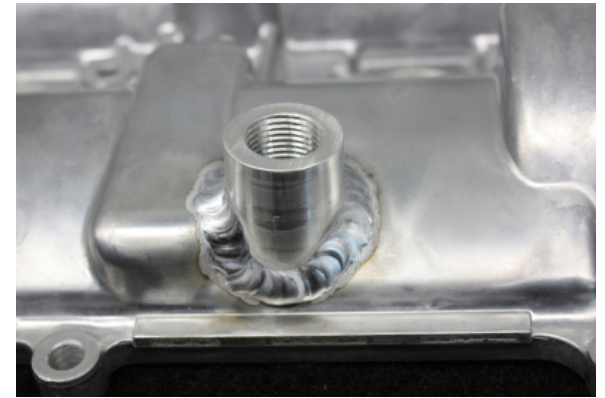
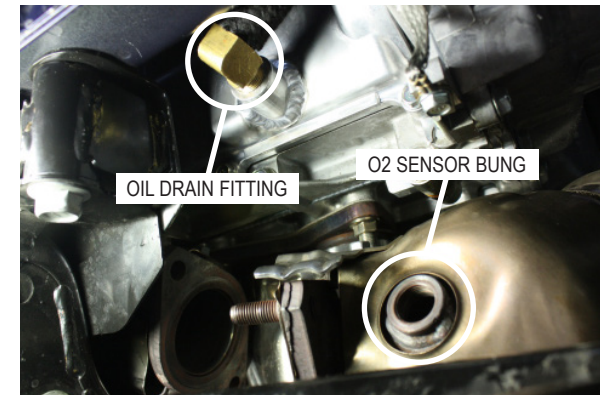

Fig. 11K
Fig. 11L
- N. Locate the provided weld-on oil drain bung. The oil drain bung is already contoured to match the valve cover contour. Place the oil drain bung onto the valve cover, making sure that the threaded portion of the oil drain bung is level & square to the valve cover. Once the oil drain bung is level & centered over the hole, weld it onto the valve cover. See Fig. 11K
- Q. Place a light coat of RTV onto the valve cover gasket & reinstall the valve cover to the engine. Secure the valve cover to the engine using the (8) 10mm screws previously removed. **Note: Be sure that the seating surface of the valve cover gasket on the engine is clean & clear of any old RTV.**
- R. Locate the provided oil drain fitting & apply a small amount of pipe sealant prior to installation. Be sure that the oil drain fitting is facing up at about a 35° angle. Use a 3/4" open end wrench to help tighten the oil drain fitting. Removal of the o2 sensor will be necessary to provide adequate working space. Be sure to unplug the o2 sensor prior to removal and set aside. See Fig. 11L